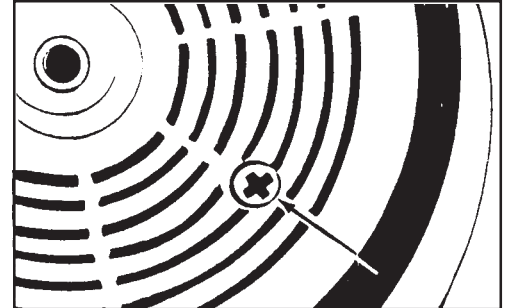

Figure 9
3. Align both holes with one of the three screws in the gear housing cover. Remove the screw from the gear housing cover. See figure 9.